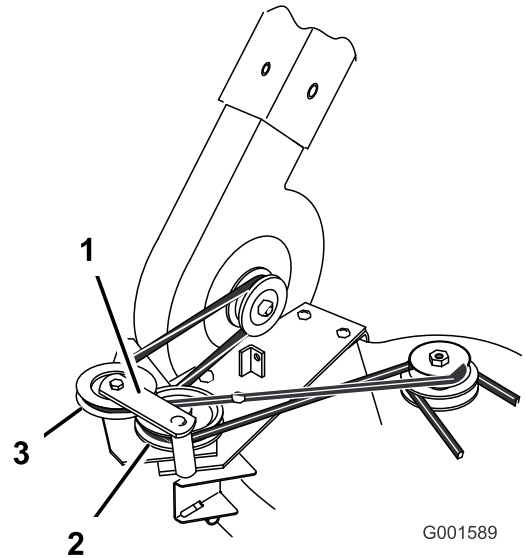

Figure 29
1. Open the latch and swing the blower out away from the mower, remove the blower belt from the mower pulley (Figure 29).